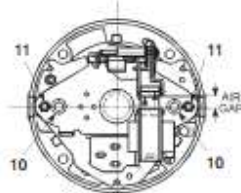

Figure 6
Turn both spring adjustment screws (11). Figure 6, equal amounts counterclockwise to decrease torque. See Table A for torque reduction permissible amounts.